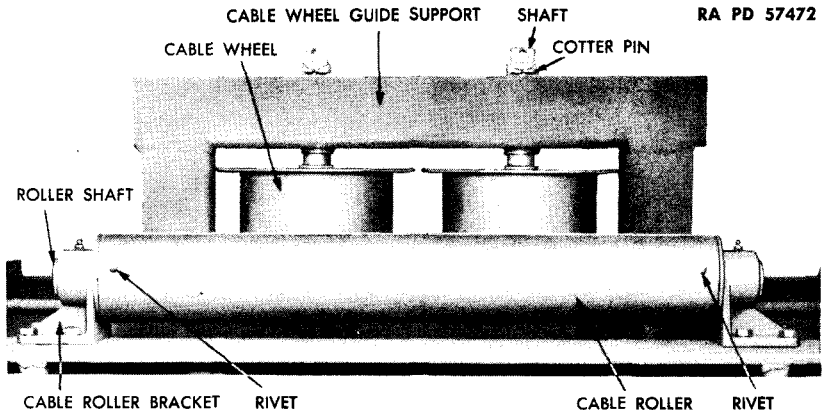

Figure 16 — Wheel Cable Guide and Cable Roller Assembly
a. **Description.** The wheel cable guide assembly (fig. 16) is mounted on the top deck of the trailer. The two cable guide wheels are held in a support frame by two shafts. The cable end of the winch is passed between the two wheels, thus allowing the winch operator to pull from any angle desired.
a. **Disassembly (fig. 16).** Pull two cotter pins from the two shafts. Place small steel bar in hole provided at end of shafts, and pull the shafts out of wheels with a turning motion. Place a cant bar between the two wheels and work them out of support frame. Remove lubrication fitting from top side of each wheel.
(1) Steam-clean cable guide wheel and shaft.
a. **Description.** The cable roller (fig. 16) is mounted on the second crossmember from the front on the top deck. Two mounting brackets are provided to furnish bearings for the shaft. The cable roller consists of a tube, shaft sleeves, and rivets. The roller revolves with the shaft. The shaft revolves in the two mounting brackets. When pulling from the rear of trailer, the cable from the winch, which is mounted on the towing vehicle, is passed over the top of the cable roller. This furnishes a rolling bearing surface for the cable, preventing excessive cable wear.
a. **Disassembly (fig. 16).** Remove nuts, lock washers, and cap screws holding the two roller brackets to trailer crossmember. Drive the roller bracket off roller shaft. Remove the assembly. Remove the lubrication fittings from the two brackets. To remove the shaft, cut the heads off the two countersunk rivets located at each end of the tubing. Use an acetylene cutting torch, or place punch mark in
d. **Assembly** (fig. 16). Place shaft into bushing. Make certain the two pin holes in shaft are in alignment with the two holes in bushing and roller. Secure shaft and bushing to tubing, using two rivets. Peen end of pins. Bolt one roller bracket to crossmember, but do not tighten bolts. Place roller assembly in bracket. Place bracket over end of roller shaft. Bolt bracket to crossmember. Tighten bolt at opposite end of shaft. Install lubrication fittings into brackets, and lubricate brackets.